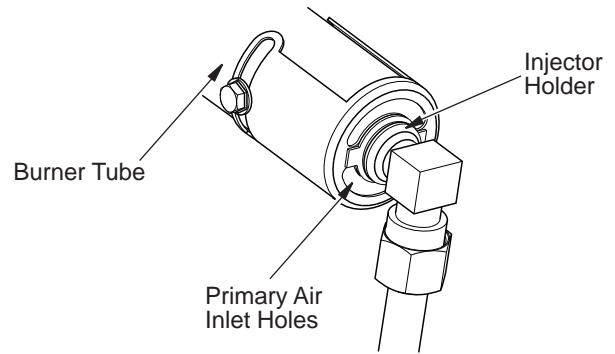

Figure 31 - Injector Holder On Outlet Burner Tube
2. Inspect burner, and primary air inlet holes on injector holder for dust and dirt (see **Figure 31**).